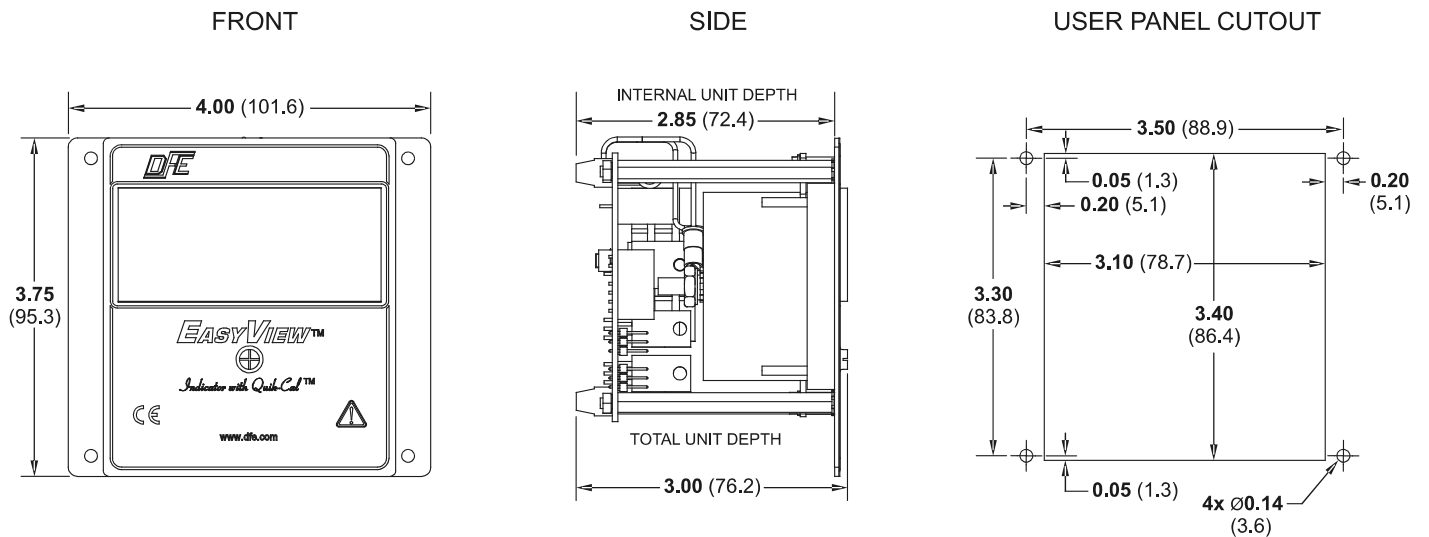

Figure 2 - DIMENSIONS
1. Using the User Mount Cutout pattern in Figure 2, cut and drill the mounting holes.